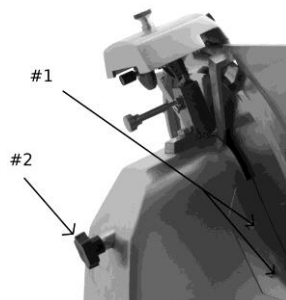

Figure 8
3. The slice deflector can be removed by loosening the screw knobs #1 (Fig. 8).
4. Remove the knife cover by rotating the cover release knob #2 (Fig. 8) counterclockwise until it releases. While holding the knobs on the knife cover, **carefully** lift the knife cover upward to remove.